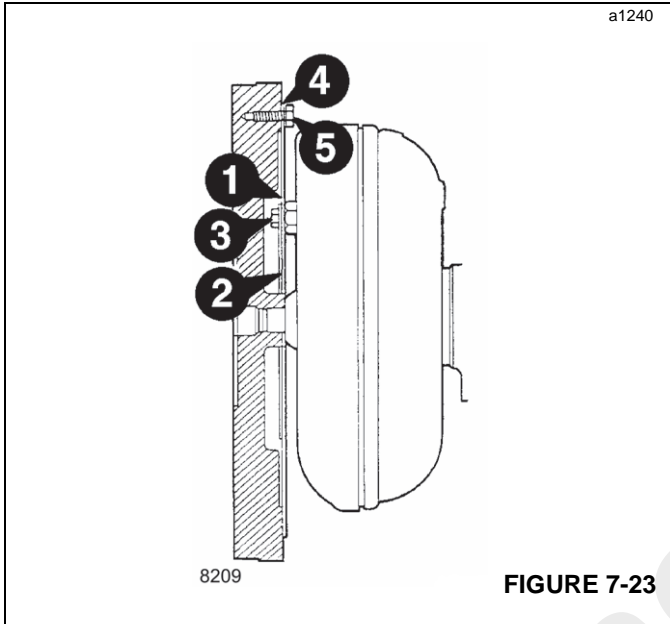

FIGURE 7-23
1. Place the drive plate and annulus (1 Figure 7-23) onto the torque converter.
- e. Remove the access plate from the bottom of the engine flywheel housing and, through the access hole, fit and hand tighten one bolt (3, Figure 7-23) in the six o'clock position.
- NOTE:** It is important to mount washers (4) with the outside diameter radius against the drive plate, that is, facing towards the flywheel.
- f. Rotate the flywheel until the next bolt hole is accessible. Apply Loctite 243 to the threads of the next bolt (3) then fit and hand-tighten. Repeat this operation until all bolts are installed. Finally, torque all bolts (3) to 19 Nm (14 lb-ft), rotating the flywheel
1. Assemble the drive plate and drive plate annulus (1, Figure 7-23) to the torque converter using bolts (3), finger tighten at this time.
2. Bolt drive plate to flywheel and check that run-out of pump drive shaft (B) does not exceed maximum permissible 0.38 mm (0.015 in). If incorrect, tap torque converter by hand to reposition.
4. Apply Loctite 243 to threads of bolts (3) and tighten to 40 Nm (30 lb-ft).
5. Fit torque converter/drive plate sub-assembly to flywheel; align marks, then fit washers (4) and bolts (5). Apply Loctite 243 to bolts (5) and tighten to 19Nm (14 lb-ft).